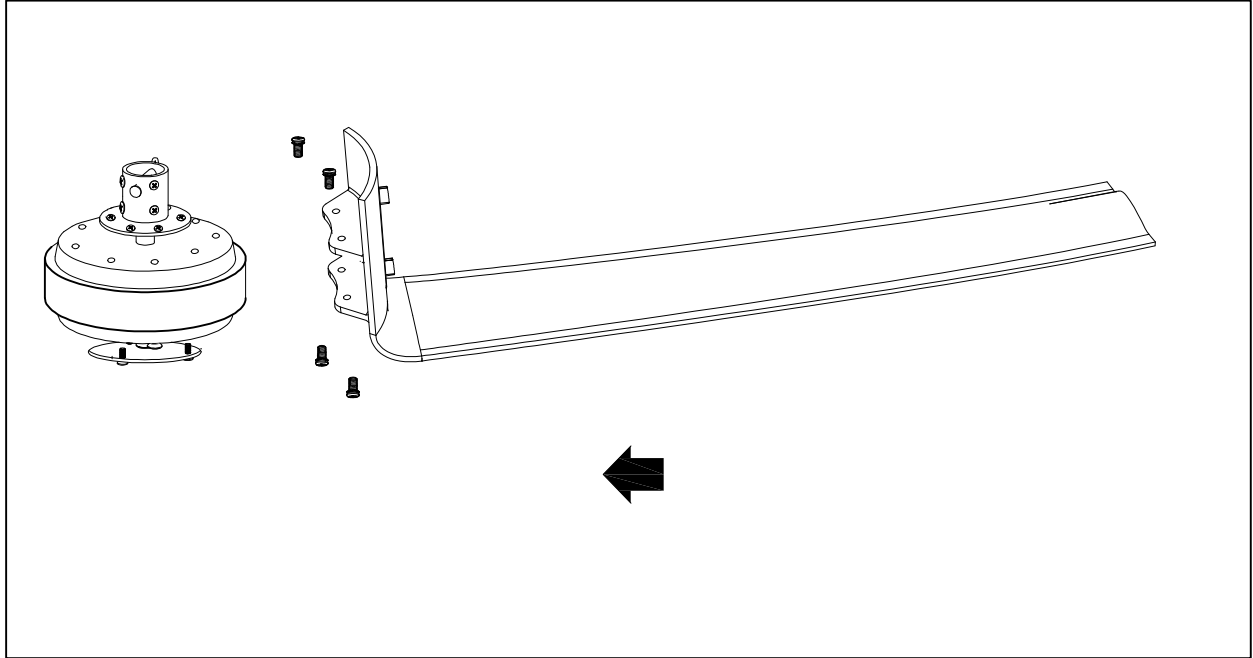

Figure 1
- Fix the fan blades on the motor with screws in turn.(Figure 1)